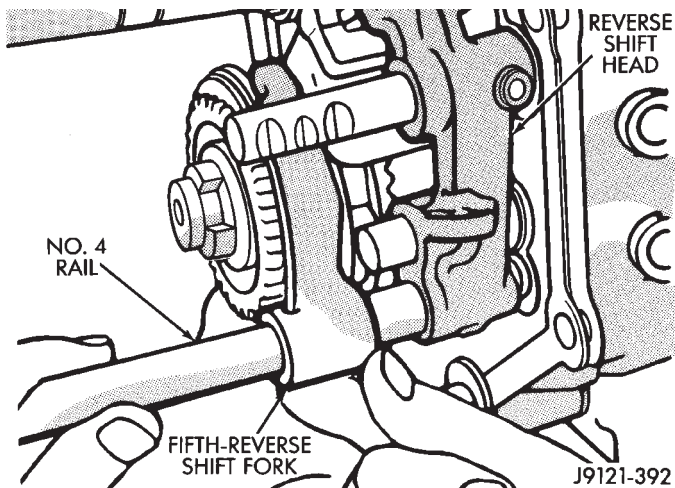

Fig. 87 Fifth-Reverse Shift Fork Installation
(16) On AX 5, install fifth-reverse shift fork in synchronizer sleeve. Then slide No. 4 shift rail into fork (Fig. 87).